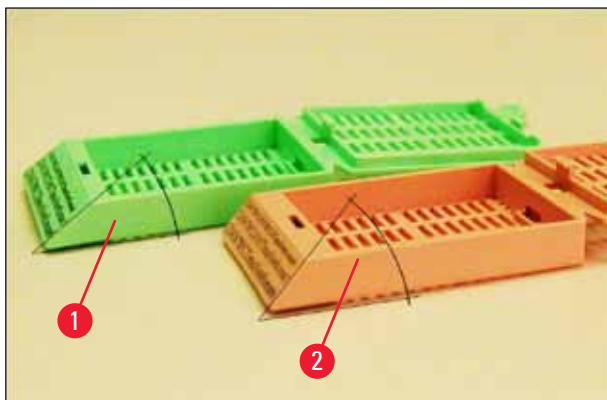

Fig. 8
- The angle (→ "Fig. 8"), measured from the bottom, can be 35 ° (→ "Fig. 8-1") or 45 ° (→ "Fig. 8-2").